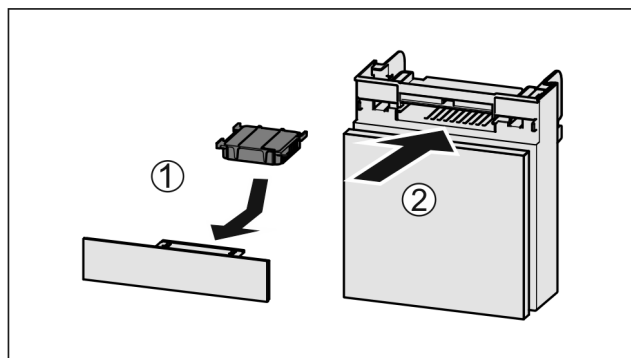

Fig. 138
- Insert the carbon filter as shown in the diagram Fig. 138 (1).
- Push the compartment in Fig. 138 (2).